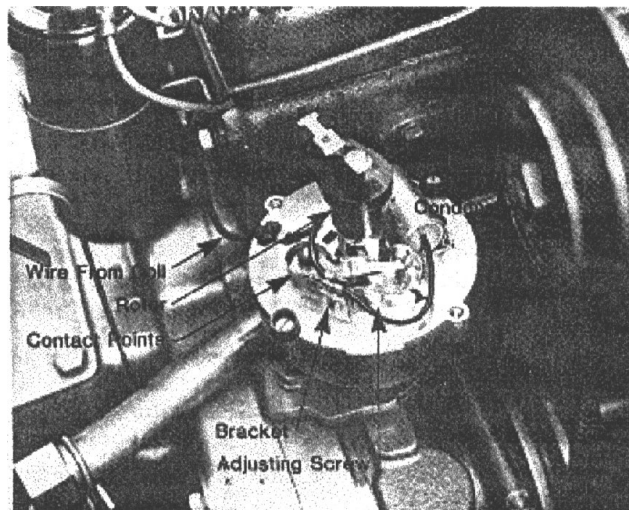

FIGURE 9 - ADJUSTING IGNITION POINT GAP
3. Remove negative terminal and condenser wire terminal from the inner portion of the insulated bracket (see Figure 9).